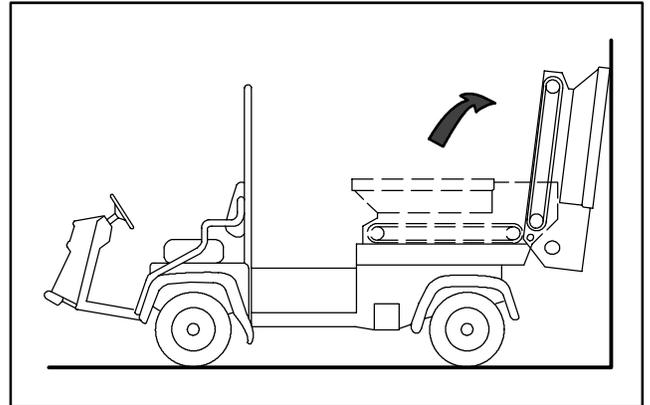

Figure 27
5. Pivot hopper rearward and lean against wall, ladder, etc. Do not allow hopper to rest against rear of machine as damage may result to brush or hydraulic couplers (Fig. 27).
IMPORTANT: Make sure hopper is pivoted beyond center and/or secured to wall or post to prevent it from accidentally falling on work area (Fig. 27).